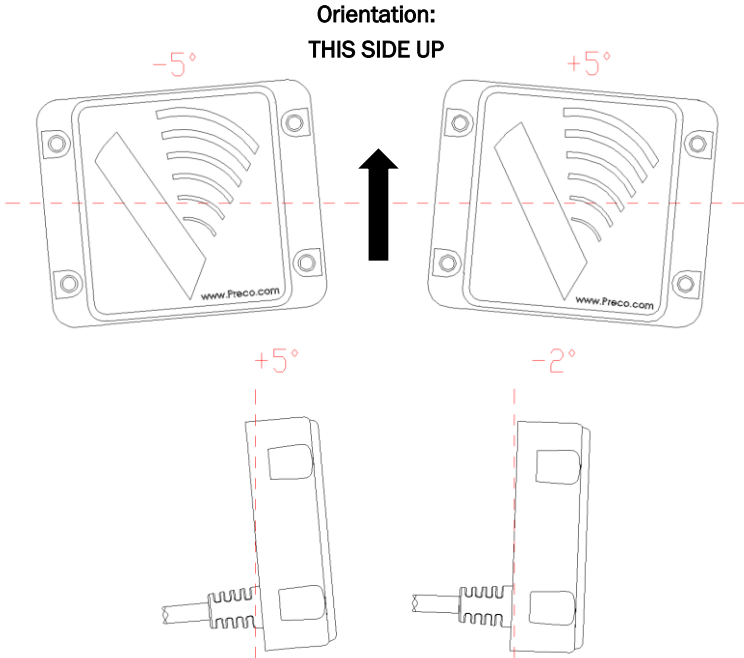
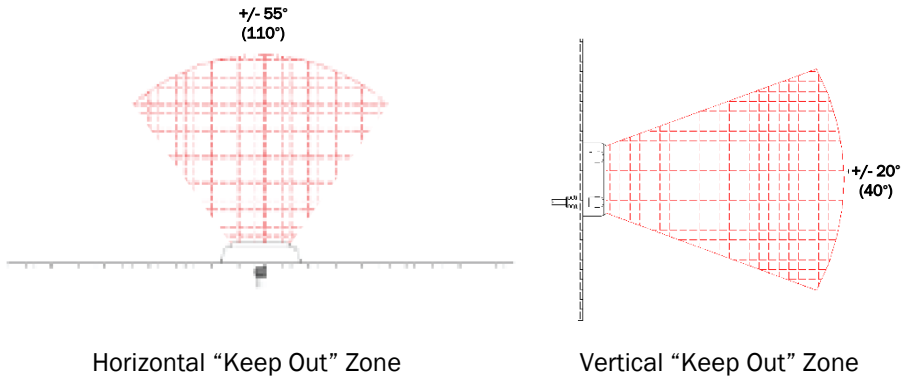

Figure 5. Vertical and Horizontal Angle Mounting Tolerances
Figure 6. Keep Out Zones
The PreView® sensor mounting location is integral to proper system operation. The sensor's detection zone must cover the blind spot you wish to monitor and the sensor must be mounted at the appropriate height. For example, to monitor a blind spot directly behind your equipment, the sensor should be mounted on the rear as close to the center of the equipment as possible. The sensor face should be perpendicular to the ground and oriented properly, see Figure 5. Select a location that will provide some protection from impact and debris while allowing an unobstructed field of view covering the targeted blind spot. Refer to the Keep Out/Interference Zones shown in Figure 6.
2. See Figure 5 for orientation of the sensor.
For optimal performance, the sensor should protrude beyond any other portion of the vehicle. If this is not possible, it is important to understand how surrounding objects can impact the sensor’s performance. The sensor’s horizontal field of view in the first 3’ (1 m) is approximately +/- 35° (70°) widening to approximately +/- 60° (120°) between 3’ and 10’ (1 and 3 m). The vertical field of view is +/- 10° (20°). Metallic and other strong radar reflecting objects outside but near this field of view can cause interference. These objects must remain outside the expanded area shown as the “Keep Out Zones” below in Figure 6, +/- 55° (110°) horizontal and +/- 20° (40°) vertical. If your specific implementation requires radar reflecting objects to reside in the Keep Out Zones, testing must be performed to determine their influence on the sensor’s performance.